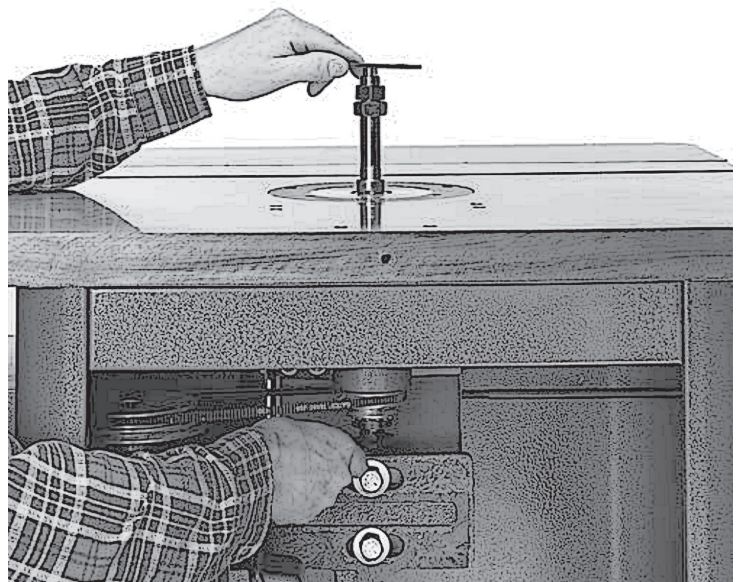

Fig. 8 Tightening the drawbar nut.
6. Place the spindle wrench on top of the spindle, so it fits over the head of the spindle. Place a 17mm wrench on the drawbar nut. See Figure 8.